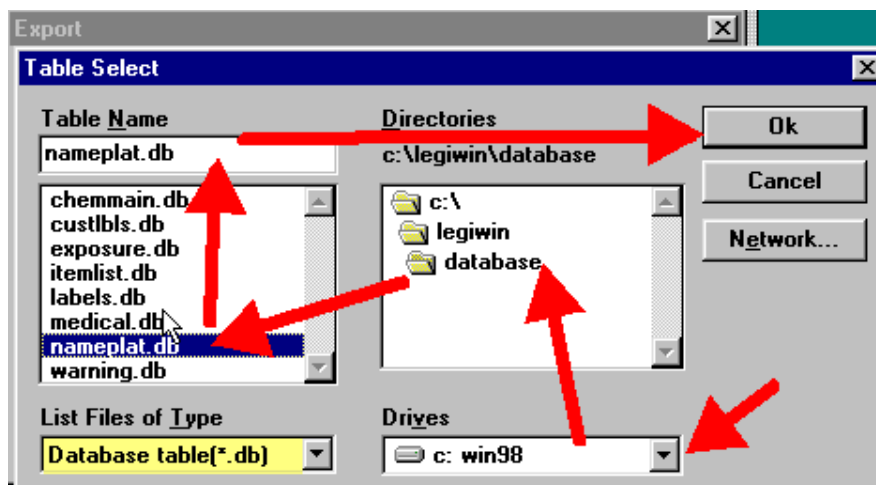

Figure 5-3
5.2.4. Browse to *C:\legiwin\database*. (Figure 5-3)
5.2.5. Note that the *List Files of Type* is set to *Database tables (*.db)*. (Figure 5-3)
5.2.6. Highlight the table you want and click [**OK**]. (Figure 5-3)